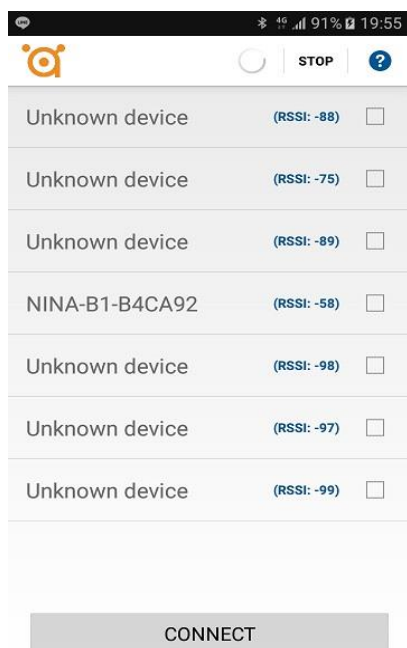

Figure 2
- 3.Launching ANTZER BLE ANTZER-BLE app as Figure 2
4. For re-connection of BLE device, click Android device button () to initialize connection(as Figure 2).